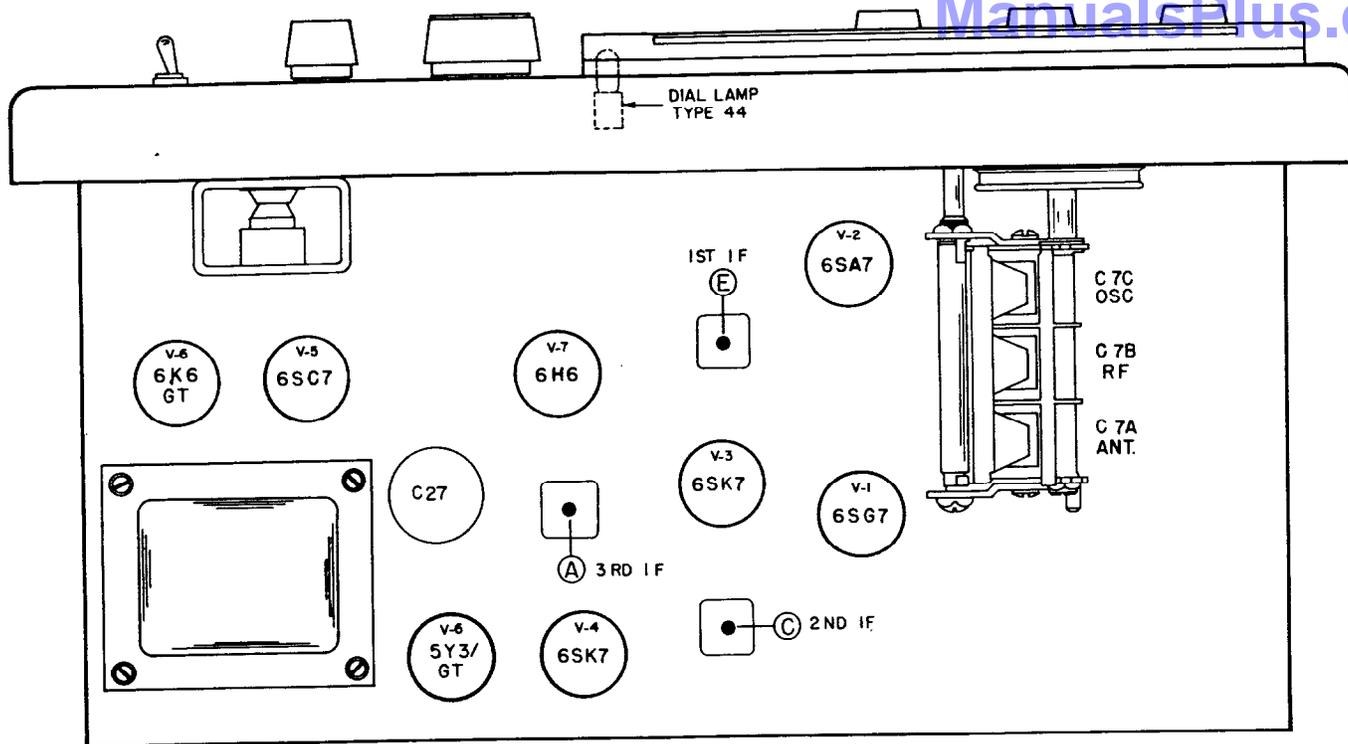

Fig. 4. Top View of Chassis Showing Location of Alignment Adjustments, Tubes and Dial Lamp
TUBE AND DIAL LAMP REPLACEMENT - Refer to Fig. 4 for the location of the tubes and dial lamp used in the receiver. The hinged top cover must be raised to gain access to the tubes and dial lamp. When replacing tubes, check the tube type carefully and replace it with the correct type. To replace a tube, insert the center guide pin into the center hole of the tube socket, rotate the tube until the key drops into position and then push down until it is held firmly in the socket. To make a dial lamp replacement, unclip the dial lamp socket from the mounting bracket. Replace the defective lamp with a type 44 pilot lamp.
- Refer to Figs. 4 and 5 for location of alignment adjustments.